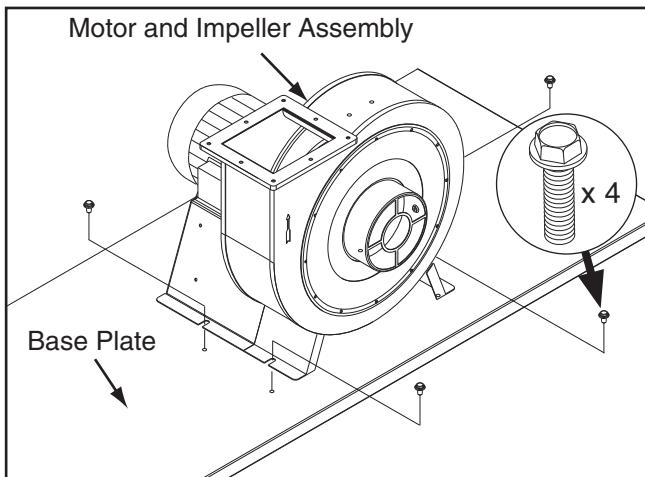

Figure 12. Motor and impeller assembly installed onto the base.
3. Turn the base over, align the motor and impeller assembly with the mounting holes, then secure the assembly with (4) $5/16$ "-18 x $1/2$ " flange bolts, as shown in **Figure 12**.